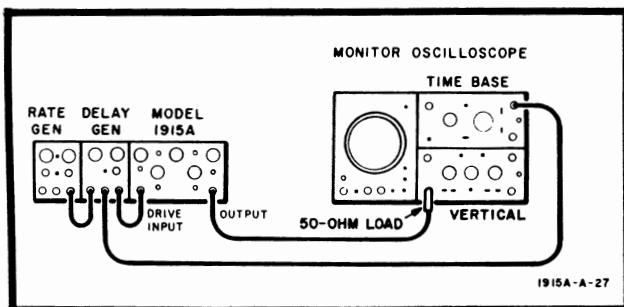

Figure 5-5. Monitor Oscilloscope Test Setup
- Connect equipment as shown in Figure 5-5.
*Connect equipment as shown in Figure 5-5.